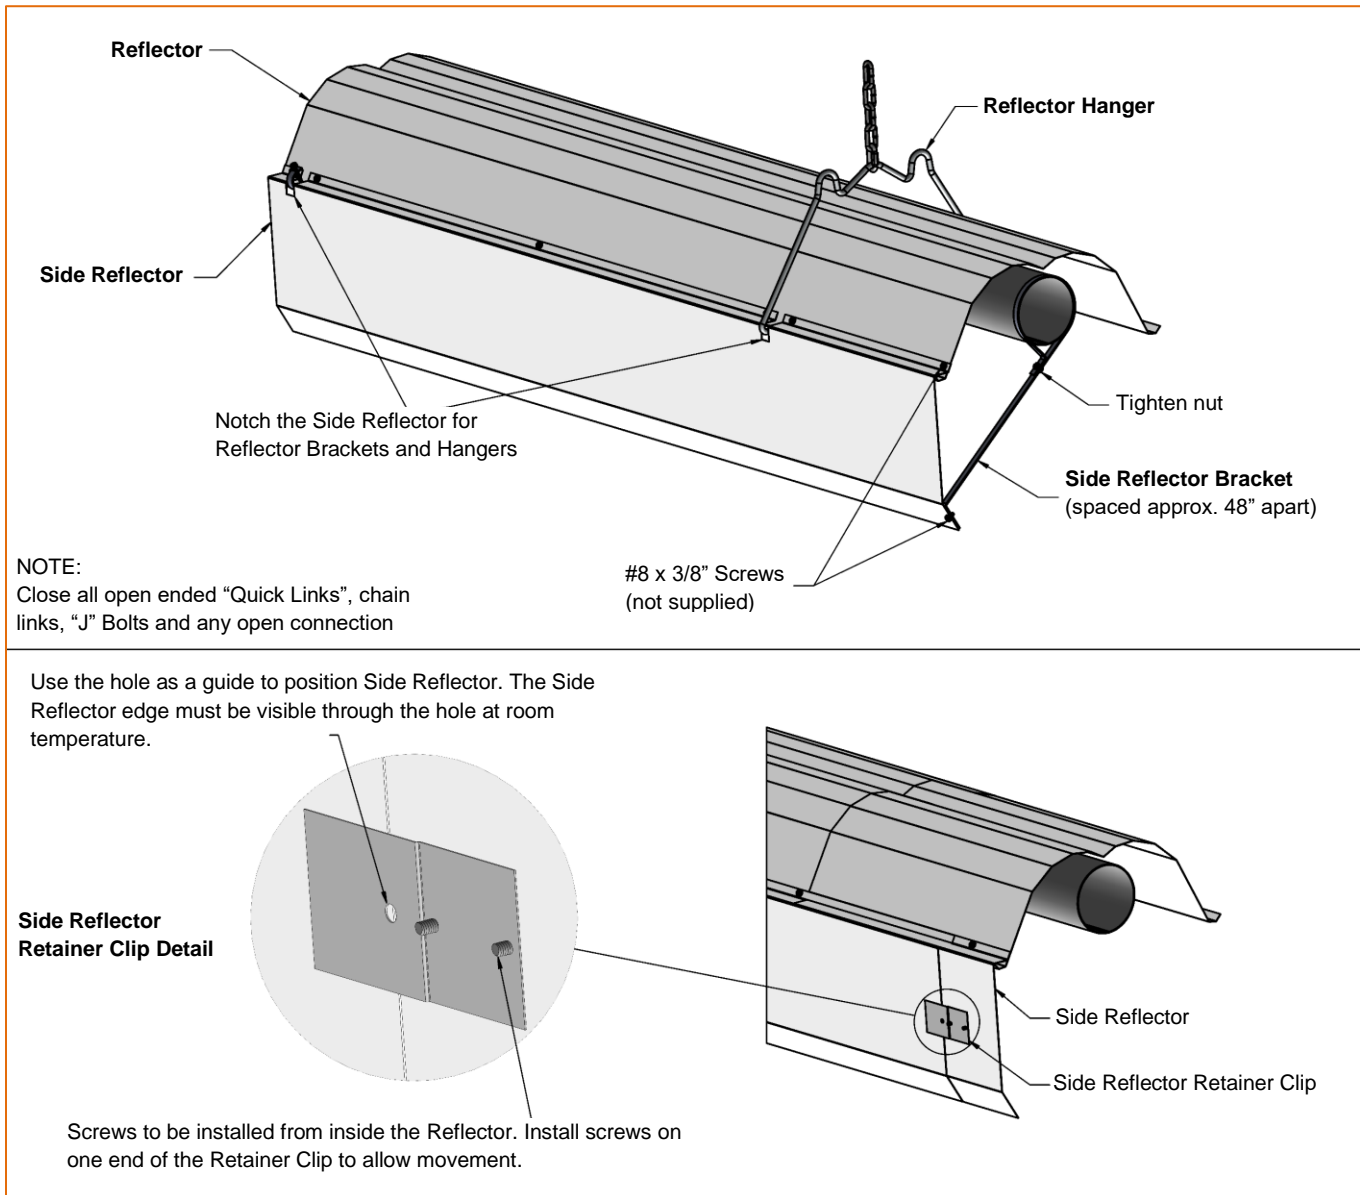
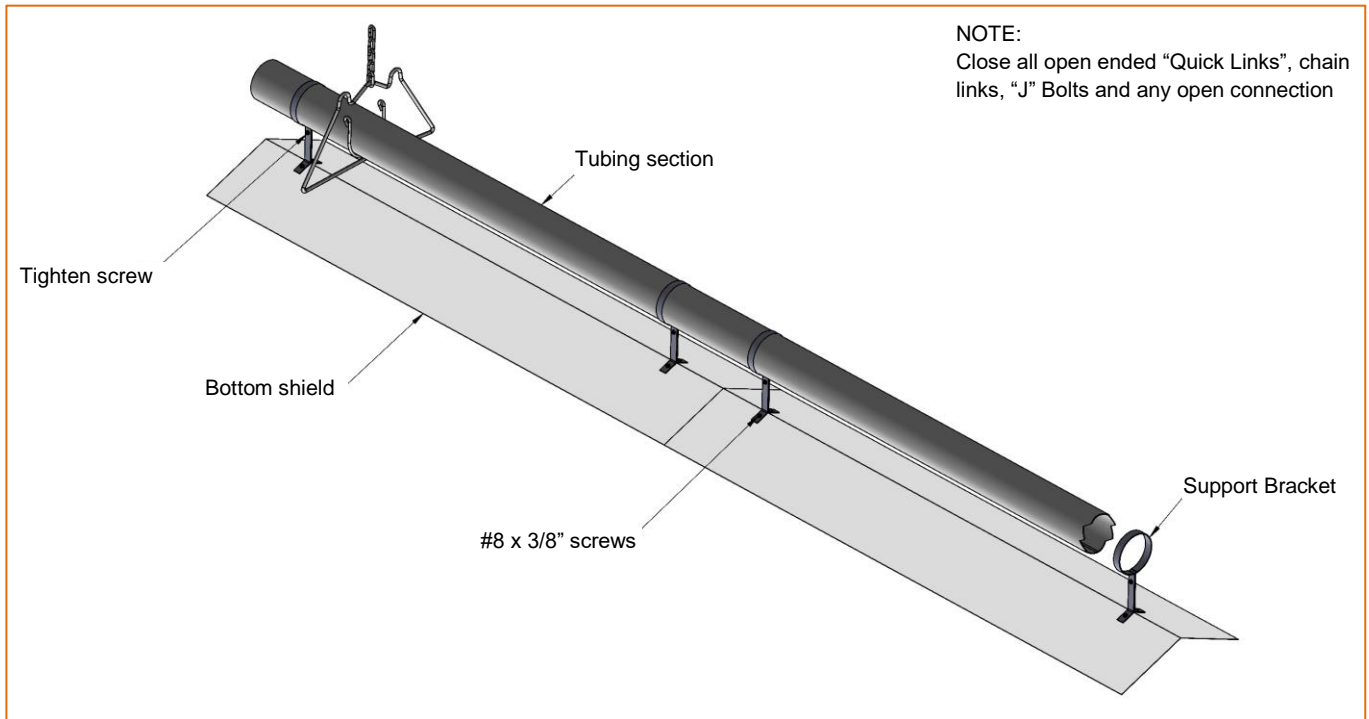

Figure 20: Side Shield Overlap
Figure 21: Bottom Shield Installation
- If used, install side shields (reflectors) and/or bottom shields as required. Refer to Figure 20 and Figure 21 for details.
- Side shields are 124" (315cm) long. Fasten one side shield per reflector with #8 x 3/8" screws. Use three side shield brackets per side shield. Space about 48" (122cm) apart; refer to Figure 20.
- Bottom shields need not overlap. Each 5' section is held with two support brackets (see Figure 21).